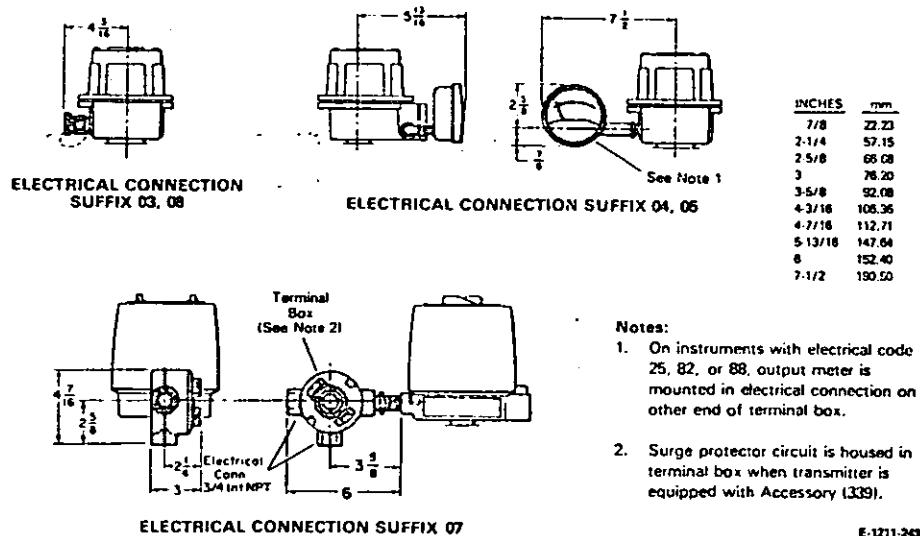

Figure 6. Mounting Dimensions for Electrical Connection Suffix 03 through 08
- For electrical connection suffix 03 through 08, see Figure 6.
1. For electrical connection suffix 07, see Figure 6.
On transmitters with a bolted cover, the surge protector circuit is located in the terminal box in the base of the housing, Figure 1. On transmitters with a threaded cover, the surge protector circuit is located in the external terminal box, Figure 6.